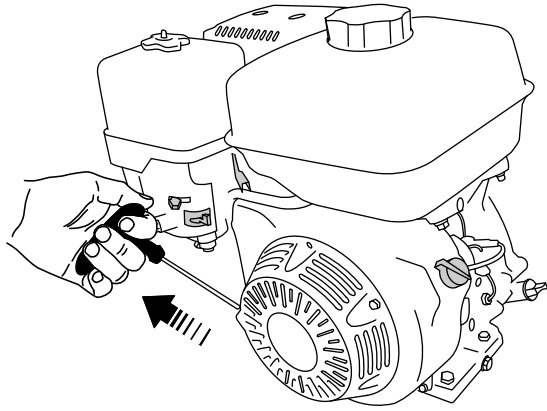

Figure 37
- Pull the starter handle lightly until you feel resistance, then pull the handle briskly (Figure 37). Return the starter handle gently.